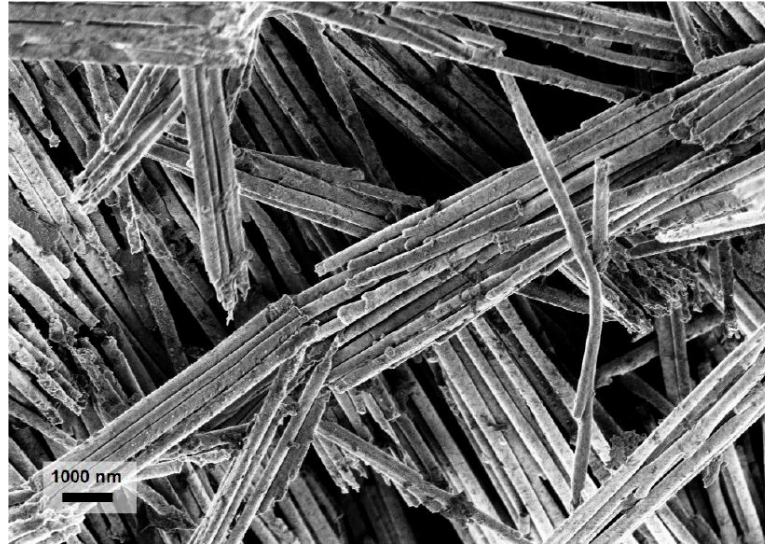

Figure 3: An FE-SEM image of nickel nanowires.
- The FE-SEM is used to visualize and measure nano-scale objects. The nanowires produced by the procedure outlined above are typically 200 nm in diameter and microns long. The visible objects dispersed in solution are generally aggregates that are made up of bundles of many individual nanowires. Samples for FE-SEM can be prepared by drop-casting onto a suitable substrate. Evaporation of the solvent leaves behind nano-wires which can be physically and chemically characterized with the FE-SEM. An example is shown in Figure 3 at the top of the next page.